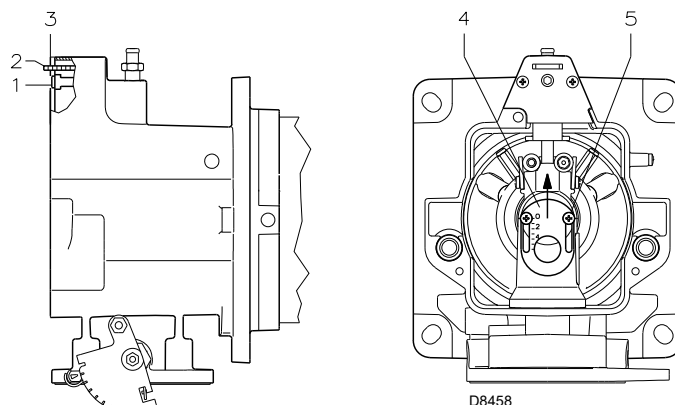
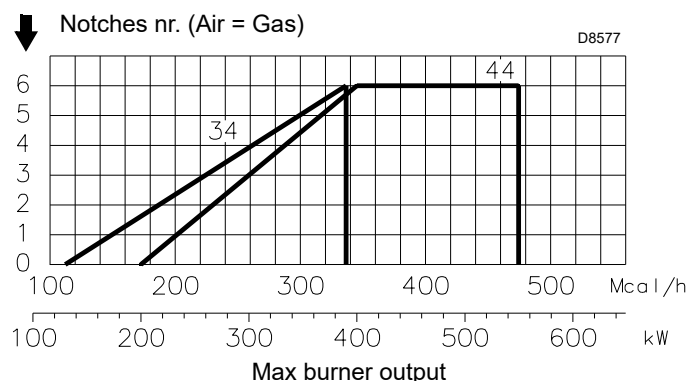

Fig. 14
Fig. 16
Installation operations are now at the stage where the blast tube and sleeve are secured to the boiler as shown in Fig. 14. It is therefore particularly easy to adjust the combustion head.
Rotate the screw 1)(Fig. 14) until the notch on the lamina 2)(Fig. 14) corresponds with the surface of the plate 3)(Fig. 14).
- In case the application needs a particular setup, it is possible to modify the central air delivery using the ring nut 4)(Fig. 14) up to the notch indicated in diagram (Fig. 16).
- In order to carry out this operation, unscrew the screws 5)(Fig. 14) and lift up the ring nut 4)(Fig. 14).
- At the end, tighten the screws 5)(Fig. 14) again.